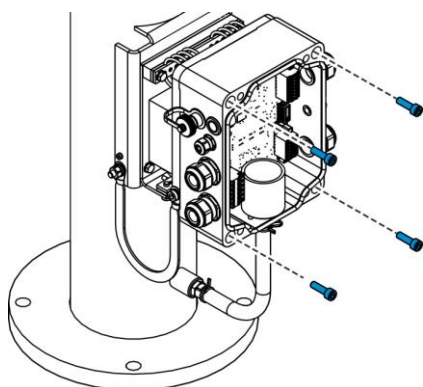

Fig. 76: Removing the housing
6. Remove the screws (Fig. 76).